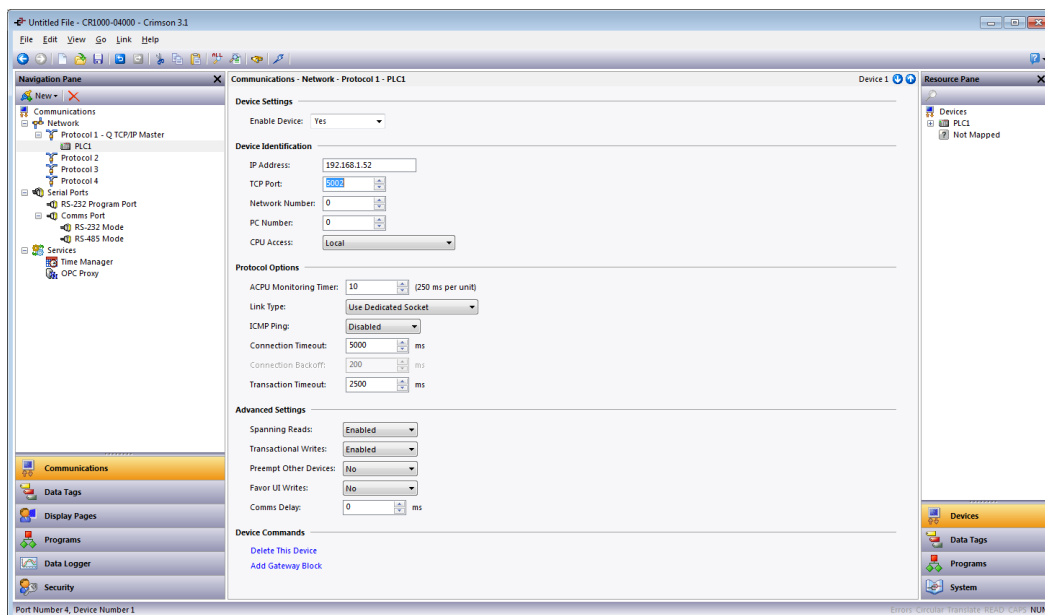

Figure 3.
1. Referring to Figure 3, go to the Navigation Pane and click on the device that appeared below Protocol 1; PLC1 in this example.